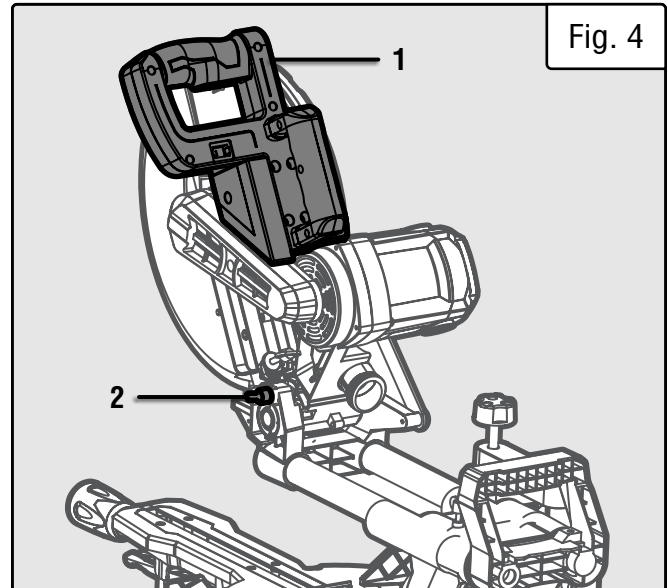

Fig. 4
1. Holding the operating handle (Fig. 4 - 1), lightly press down on the saw arm and pull out the release pin (Fig. 4 - 2). While pulled out, turn the release pin 90 degrees so it remains locked in the outer position.
1. Holding the operating handle (Fig. 4 - 1), pull out the release pin (Fig. 4 - 2).